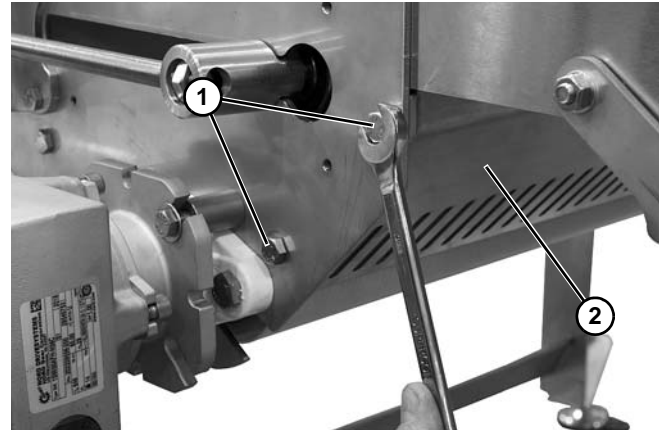

Figure 53
7. Remove two screws (**Figure 53, item 1**) from each side of the center drive. Remove the stationary guard assembly (**Figure 53, item 2**).